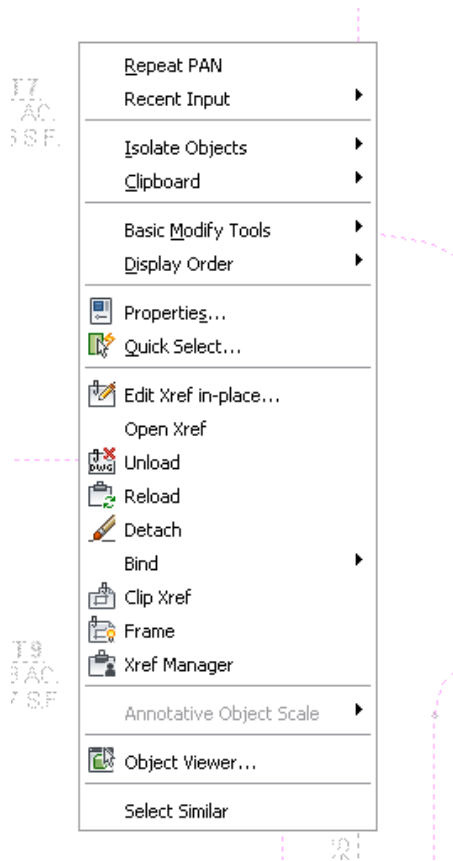

Figure 16: Xref object context menu
- 6 Right-click a parcel that exists in the current drawing and note the context menu as shown in figure 16.